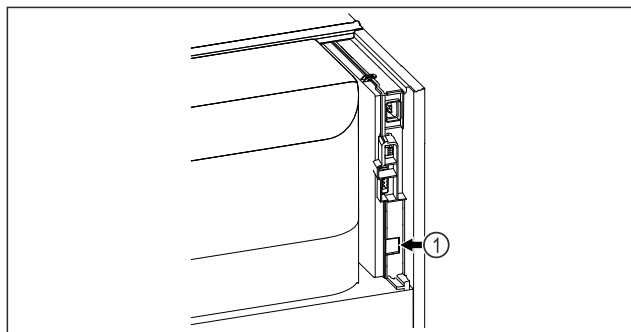

Fig. 167
- ❑ SmartModule Fig. 167 (1) is in use.